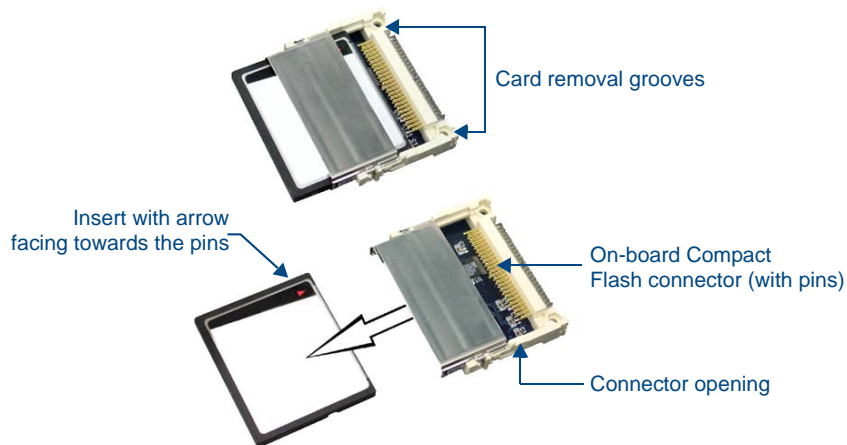

FIG. 22 Removing/installing a Compact Flash Memory card
2. Insert the tip of a grounded flat-head screwdriver into one of the card removal grooves (located on either side of the existing card), and gently pry the card out of the slot (FIG. 22). Repeat this process on the opposite card removal groove. This alternating action causes the card to "wobble" away from the on-board connector pins.